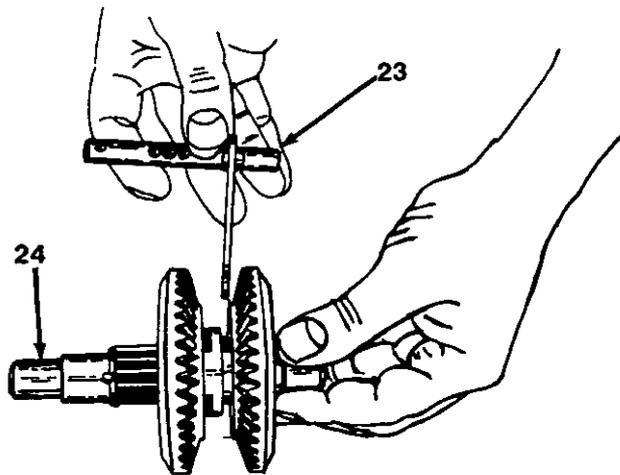

FIGURE 15.
13. Lift the drive shaft and shift yoke assembly out of housing. See figure 15.